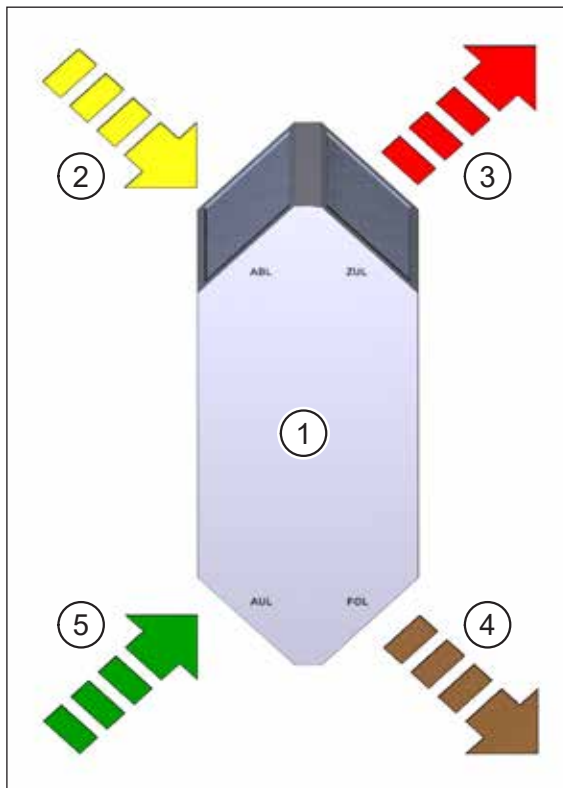

Fig. 11: How the cross-counterflow plate heat exchanger works
The channels on the cross-counterflow plate heat exchanger (item 1 in Fig. 11) are designed so that the air flows move in opposite directions. This guarantees the greatest possible exchange of thermal energy.
In the winter, the highly thermally conductive plates transfer the heat from the extract air flow (item 2 in Fig. 11) to the supply air flow (item 3 in Fig. 11). The cooled extract air is carried to the outside as exhaust air (item 4 in Fig. 11). In the summer, this is reversed; the warmer, incoming air is cooled.